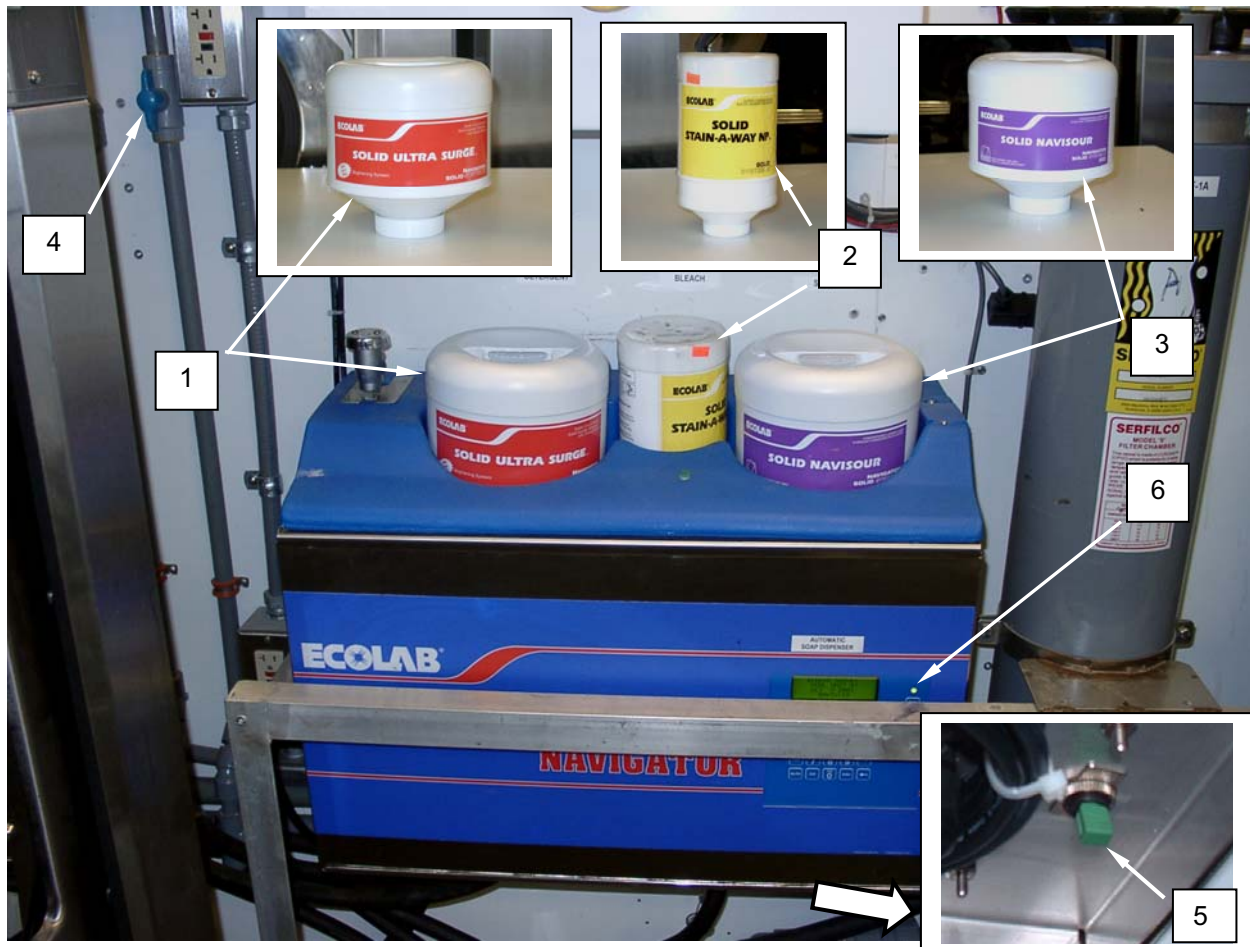

Figure 27. Prepare the Automatic Soap Dispenser for Use.
2. Remove the lid from the detergent canister (**Figure 27, Item 85**). Invert the detergent canister (**Figure 27, Item 85**) and quickly place the canister in the recess closest to washer No.1.
3. Remove the lid from the bleach canister (**Figure 27, Item 86**). Invert the bleach canister (**Figure 27, Item 86**) and quickly insert the canister into the center recess.
4. Remove the lid from the laundry sour canister (**Figure 27, Item 87**). Invert the laundry sour canister (**Figure 27, Item 87**) and quickly insert the canister into the remaining recess. Retain canister lids.
5. Open the hot water supply valve (**Figure 27, Item 88**) to the Automatic Soap Dispenser.
6. Ensure the toggle switch (**Figure 27, Item 89**) on the Automatic Soap Dispenser is in the ON position. A green signal light (**Figure 27, Item 90**) will indicate the Automatic Soap Dispenser is on and functioning.